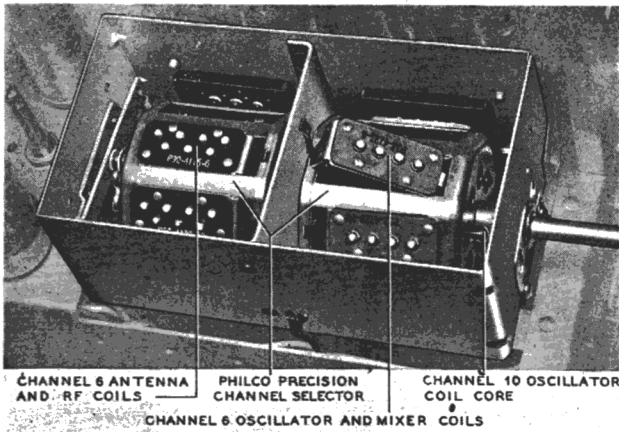

FIGURE 4. INSERTING COILS
8. Referring to figure 4, make certain that the coils are inserted properly in the Philco Precision Channel Selector compartments. The oscillator coil, which is slug-tuned, should be in the front; the aerial coil, which is not adjustable, should be in the rear. Each pair of coils is identified by part numbers ending with identical digits. The last digit indicates the television broadcast channel number. For example, 32-4122-3 and 32-4115-3 are the oscillator and aerial coils for Channel 3.
22. Referring to figure 4, make certain that the coils are inserted properly in the Philco Precision Channel Selector compartments. The oscillator